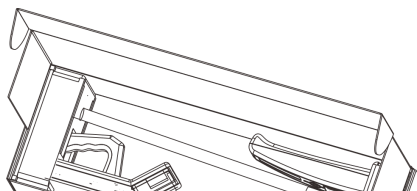

Fig2
- 1) Open the packing box(See Fig.2)